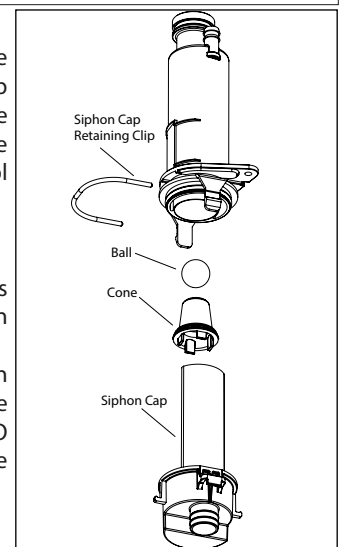

Figure 89 - Clean the Condensate Trap
- Working from below the boiler, remove the siphon cap retaining clip. Then remove the siphon cap by depressing the two (2) lateral hinges (use a tool if necessary).
**NOTE:** Ensure all parts shown in Figure 89 are installed with the boiler. If any parts are missing DO NOT operate the boiler. Replace the entire condensate trap assembly.